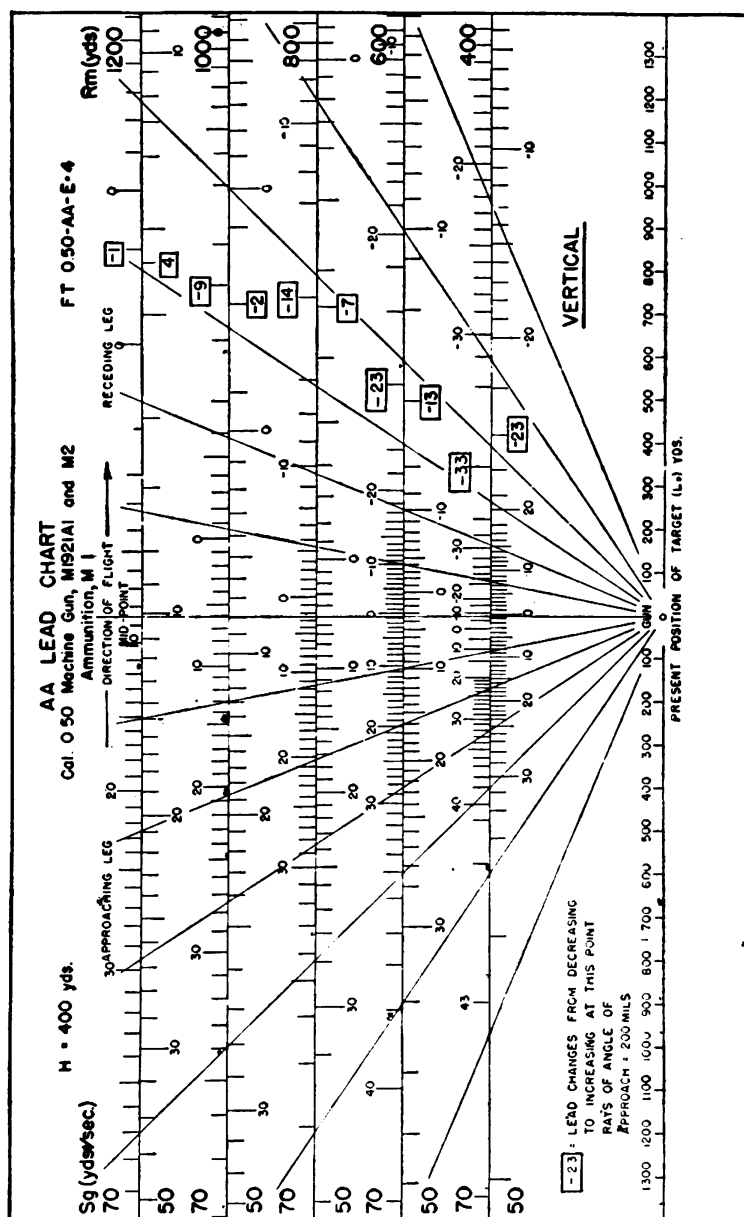

Figure 75.—Vertical lead chart.
Q. To what does the lead chart in figure 75 apply? *A.* It is the vertical lead chart for caliber .50 machine guns firing M1 ammunition at targets flying on crossing courses at a constant altitude of 400 yards.
A. (1) Increasing.
(2) Decreasing.
Q. Considering figure 75, is the vertical lead increasing or decreasing—
(1) On the approaching leg?
(2) At 400 mils past the midpoint on the receding leg?
(3) At 1,000 mils past the midpoint on the receding leg?
A. (1) Decreasing.